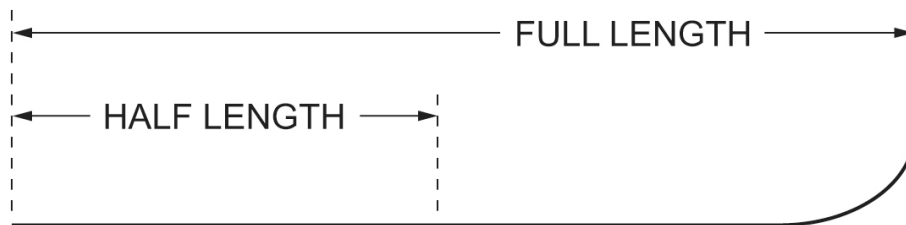

Figure 1. Finding the Ski Center.
1. Use a tape to measure the ski in a straight line from the tail of the ski to the tip (Figure 1).